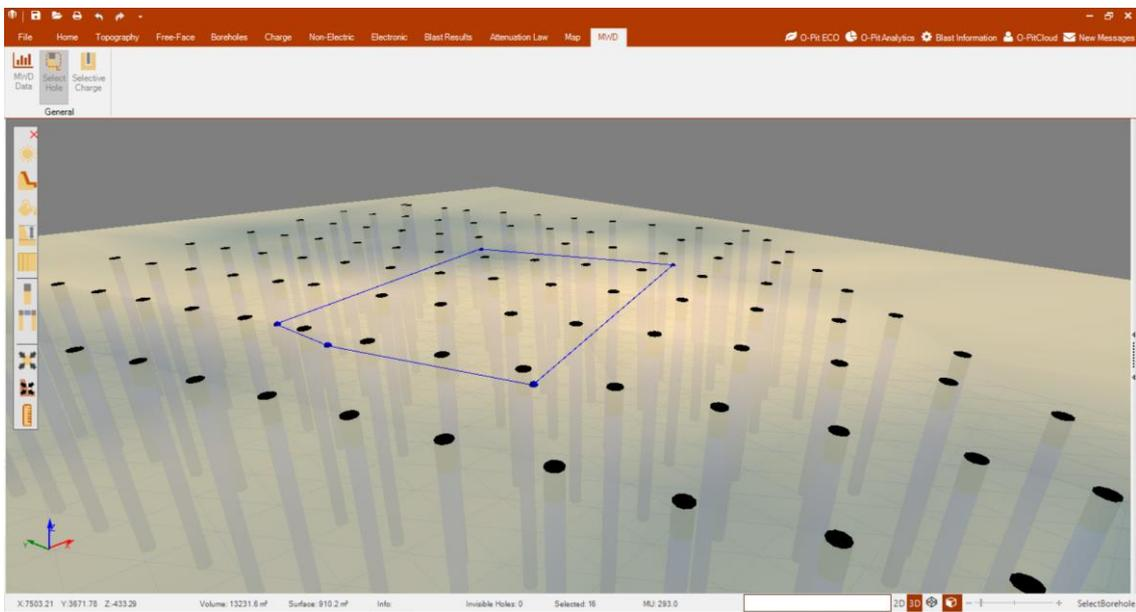

Figure 452 - MWD - Select Hole.
2. **Finalize Selection:** Right-click to close the polygon and complete the selection (Figure 452).